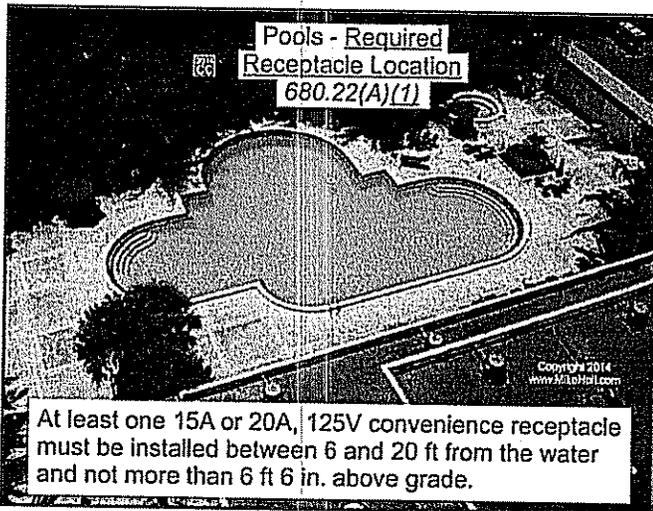

Figure 680-22
**(A) Receptacles.**
(1) **Required Receptacle Location.** One 15A or 20A, 125V receptacle must be located not less than 6 ft and not more than 20 ft from the inside wall of a permanently installed pool, outdoor spa, or outdoor hot tub. This receptacle must be located not more than 6½ ft above the floor, platform, or grade level serving the permanently installed pool, outdoor spa, or outdoor hot tub. Figure 680-22